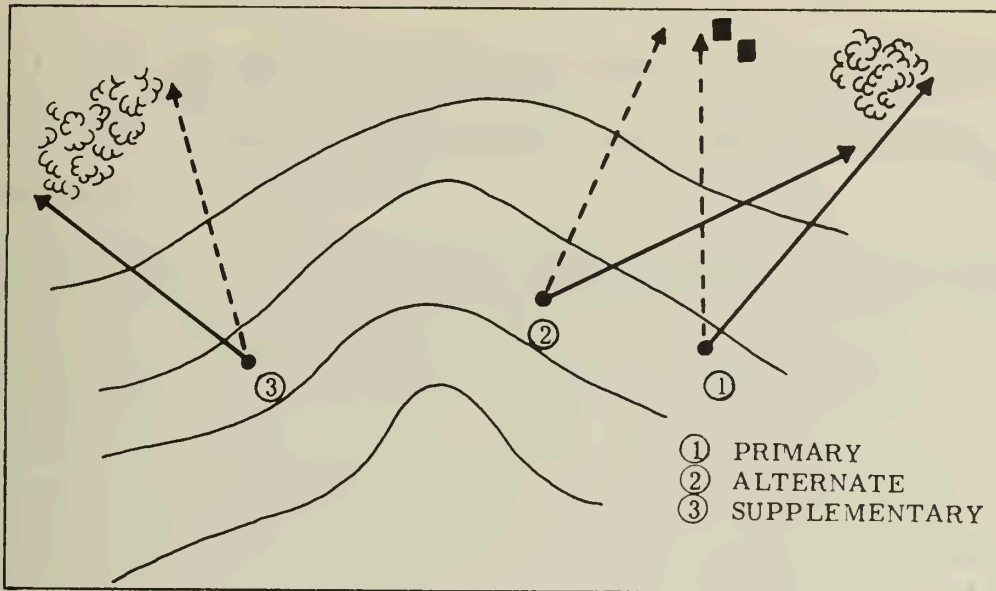

Figure 127. --Types of Positions.
(1) Types of Positions. --There are three types of positions: primary, alternate, and supplementary. (See fig. 127.)